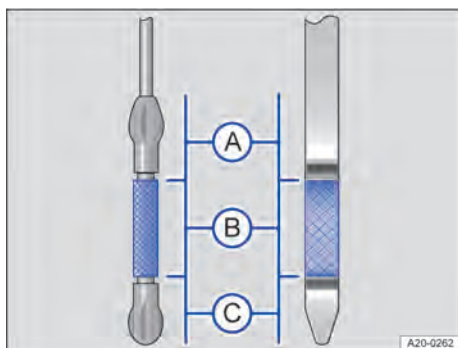

Fig. 198 Oil dipsticks with engine oil level markings (variants).
7. Pull out the oil dipstick again and read the engine oil level on the dipstick as follows → Fig. 198:
13. After filling, the engine oil level should be in the middle of the area → Fig. 198 . The engine oil level must not be in area → Fig. 198  → .
14. If too much engine oil has been added unintentionally and the engine oil level is in area → Fig. 198 , do not start the engine. Seek expert assistance.